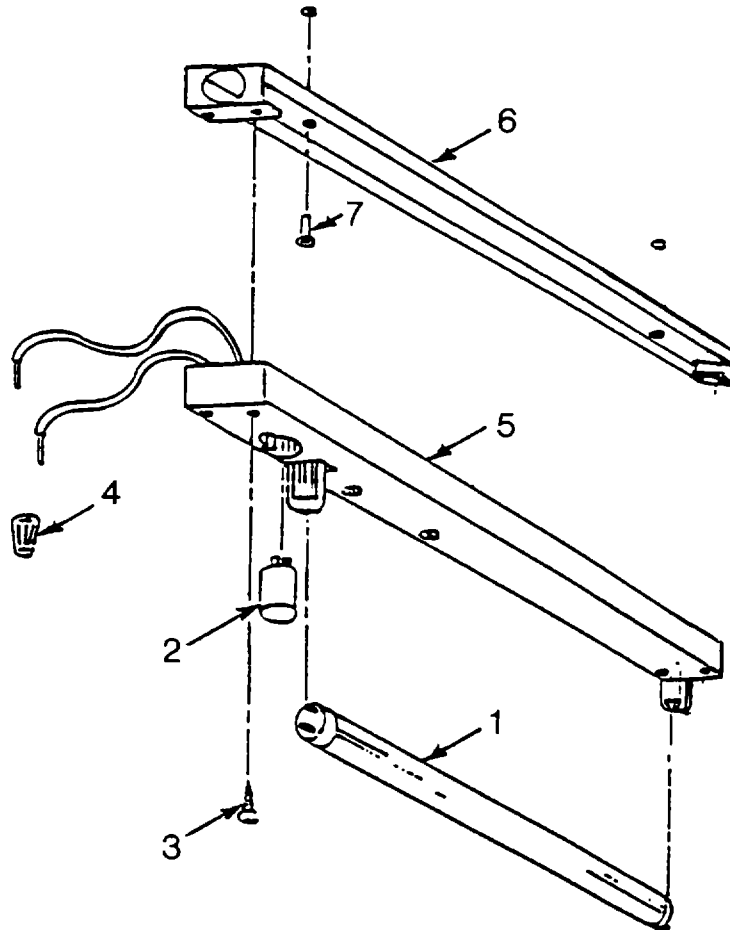

Figure 4-26. Ceiling Lamp Assembly
a. Inspect. (See Figure 4-26.)
- a. Inspect. - Continued (See Figure 4-26.)
- (1) Inspect ceiling lamp assemblies for security of mounting and for corrosion.
- (2) Inspect lamp assemblies fluorescent tubes (1) for discoloration or failure.
- (3) Inspect lamp assemblies tube sockets for damage and inability to hold the tube securely.
- (4) Inspect lamp assemblies starter (2) for proper operation.
- (5) Inspect lamp assemblies toggle switch for proper operation and for security of mounting.
- b. Replace. (See Figure 4-26.)
- (1) Set circuit breaker on power distribution panel to OFF.
- (2) Grasp lamp assemblies fluorescent lamp tube (1), rotate 90°, and lower from tube sockets.
- (3) Rotate lamp assemblies starter (2) counterclockwise and remove from socket.
b. Replace. - Continued (See Figure 4-26.)
(6) Remove bottom half of light fixture (5).
(7) Remove rivets (7) on upper half of light fixture (6) by drilling or chiseling off heads.
4-30. CEILING LAMP ASSEMBLY. - Continuedb. Replace. - Continued. (See Figure 4-26).
- (10) Position lower half of light fixture (5) to upper half of fixture (6) and secure with screws (3).
- (11) Position starter (2) in socket and carefully rotate clockwise until it locks.
- (12) Position lamp tube (1) below socket receptacles with pins vertical. Insert lamp into sockets and twist until pins lock.
- (13) Set circuit breaker on power distribution panel to ON and test by operation.
c. Repair. (See Figure 4-26.)**NOTE**